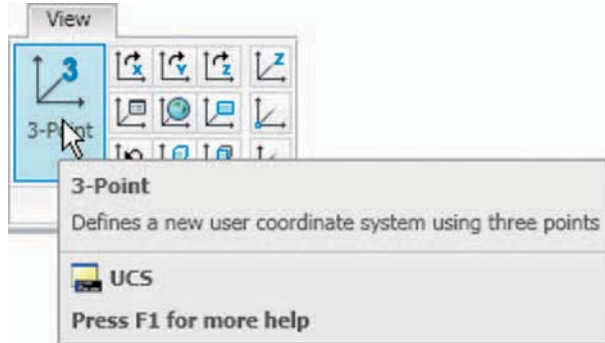

Fig. 17.13 The UCS 3 Point icon in the View/Coordinates panel
4. Click the **3 Point** tool icon in the **View/Coordinates** panel (Fig. 17.13):